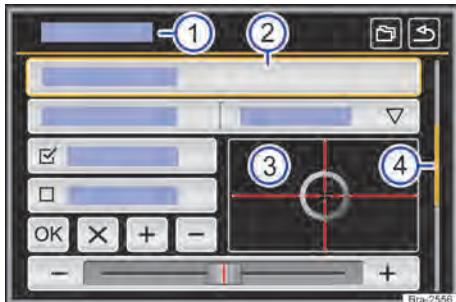

Fig. 110 Schematic representation: overview of possible function buttons on the display.
The device is equipped with a touchscreen → Fig. 110 ③.
Function buttons start specific functions or open other submenus. The currently selected menu is indicated on the title line of submenus → Fig. 110 ①.